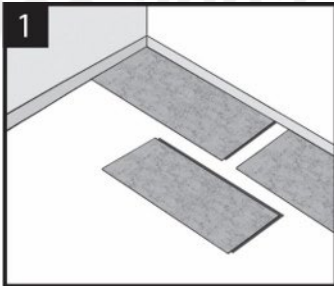

Figure 1
1. Lay a row of loose planks (Figure 1) without securing them to each other first to determine if you need to adjust the length of the first plank to avoid a small piece of less than 300mm on the opposite wall from where you started. Or, measure the length of the room and divide by 1210mm (length of one plank).